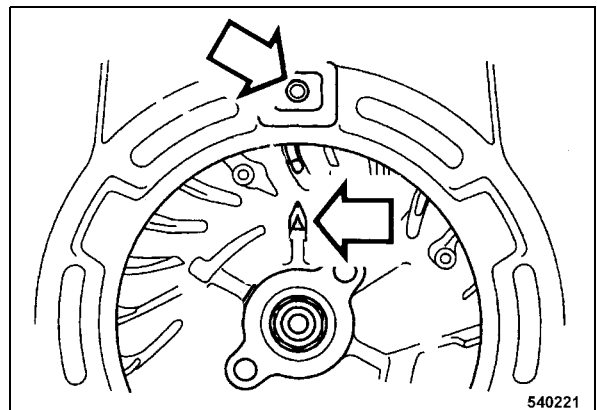

Fig. 53
- Align the alignment mark on the flywheel rib (Fig. 53) with the top bore in the fan cover .